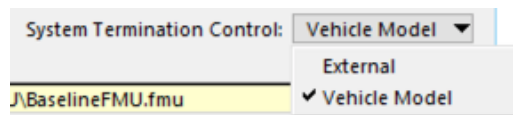

Figure 32. Options for terminating a simulation.
- Drop-down control to specify how the simulation will be terminated (Figure 32).